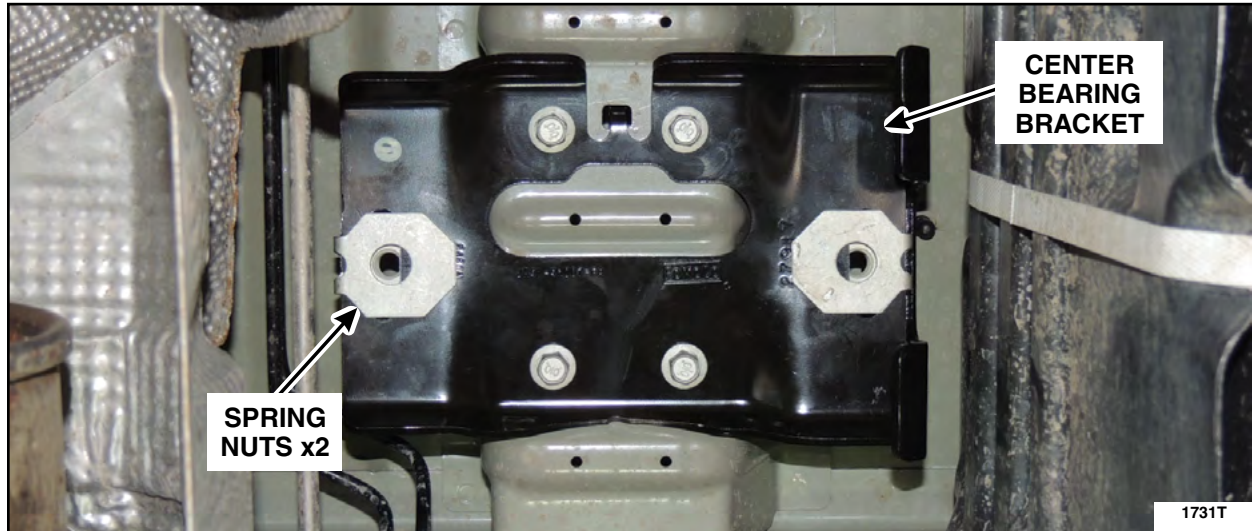

FIGURE 7
6. Install the new center bearing bracket using four new retaining bolts. See Figure 7.